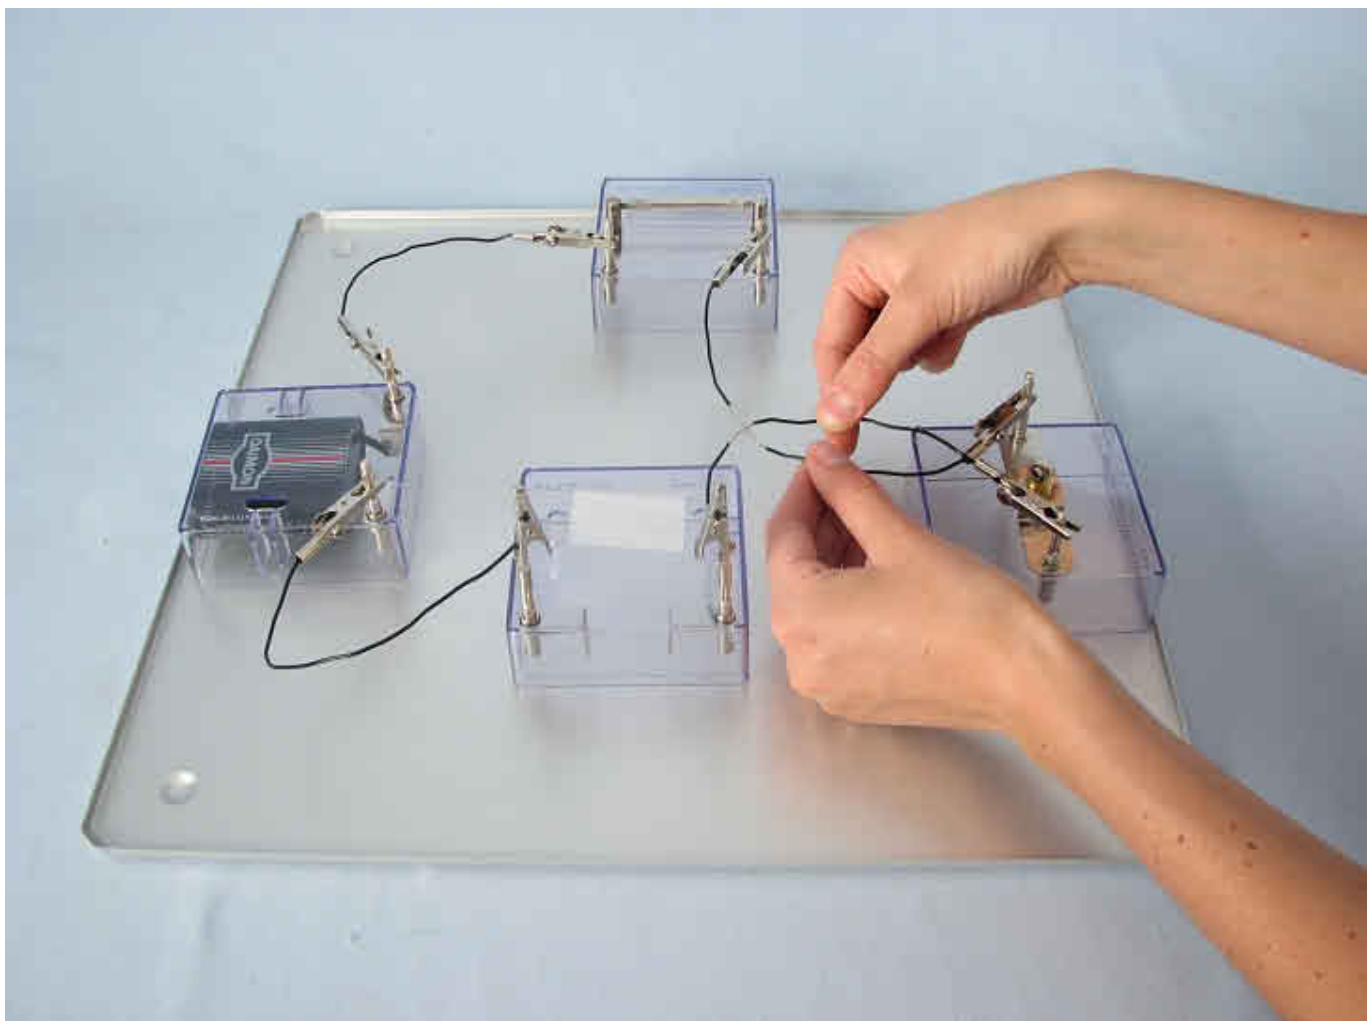

Fig. 2
- Hang a small, folded piece of vellum paper over the constantan wire (Fig. 2).